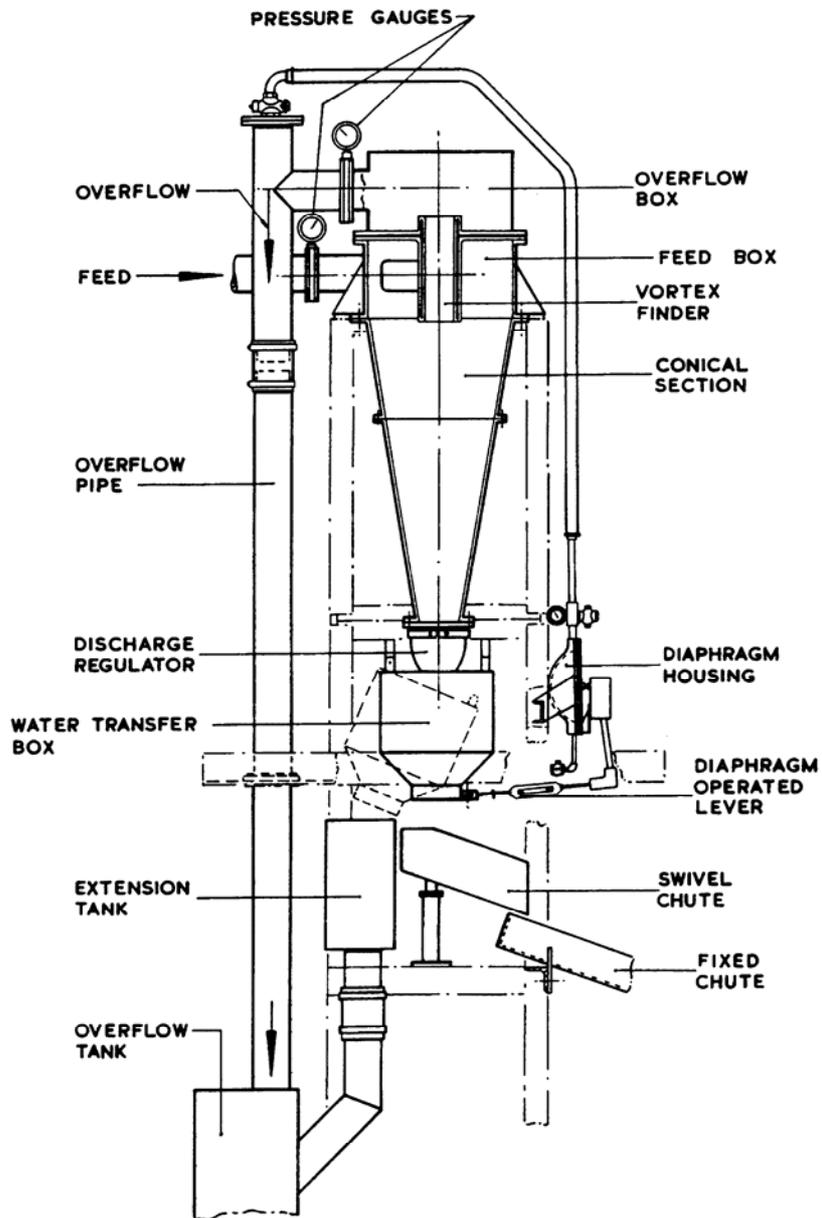

figure 3
- 2.1 The water transfer system (see Fig. 3) is designed to be fitted to the separator supporting structure and diverts the water flush away from the stockpile to the overflow collecting tank normally situated on the side of the tower. The water is diverted by means of a hinged water transfer box fitted to collect the underflow from the discharge regulator. The action of the water transfer box is controlled by the use of the negative pressure created by the separator when in operation. A series of mechanical linkages attached to a vacuum diaphragm connected to the separator overflow pipework automatically locates the water transfer box in the correct position for the underflow condition.
- 3.5 Figure 3 shows a MK II Separator installed in a standard Linatex separator supporting tower assembled in its standard orientation and fitted with the optional water transfer system. The necessary drawings are provided for correct assembly and these should be carefully studied before erection is started.